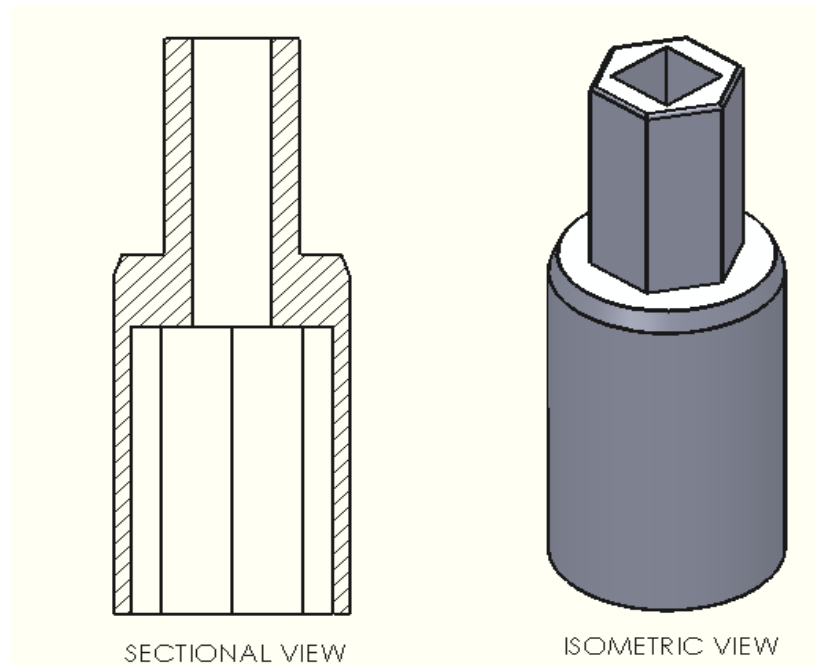

Figure Q5[b]
- [b] **Figure Q5[b] show a socket adapter made of Carbon Steel material. The part is fairly complex and must be produced in a progressive manner. With the help of sketches, name and explain the process sequence involved in the manufacturing of the part.**